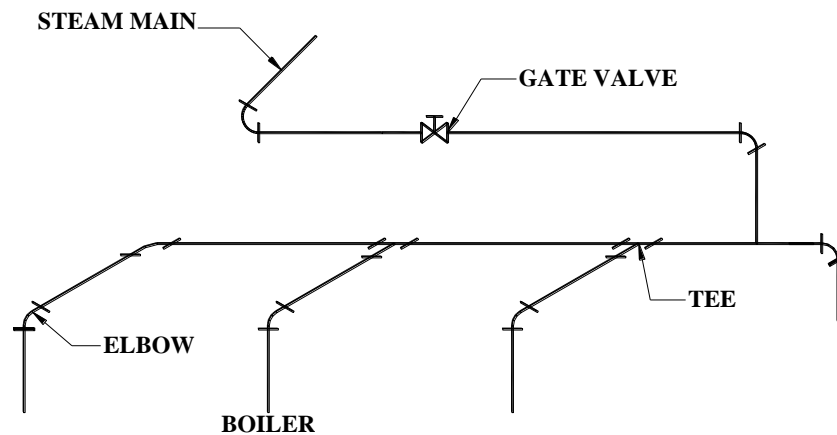

FIGURE T7.4
4. 4. REDRAW A SINGLE LINE AND A DOUBLE LINE DRAWING OF THE PORTION OF A PIPING SYSTEM AS SHOWN IN FIGURE T7.4.